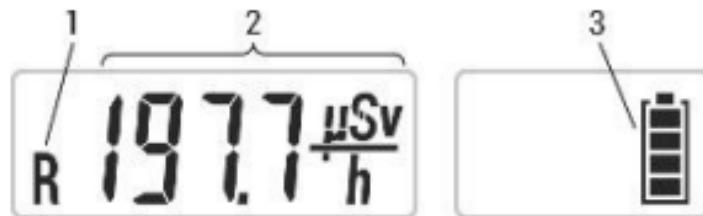

Figure 2.4 – LCD of the dosimeter
2.3.3.7.2 The dosimeter's LCD shows the following information (Figure 2.4):